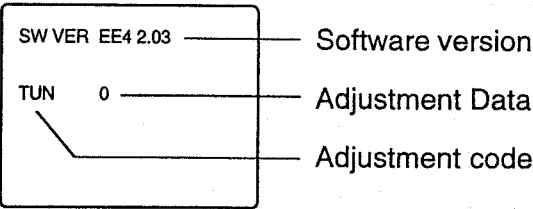

fig. 2.1B Options adjustment display
2. Press the * button to select either the VCJ or OPTION adjustment display (figs. 2.1B and C).